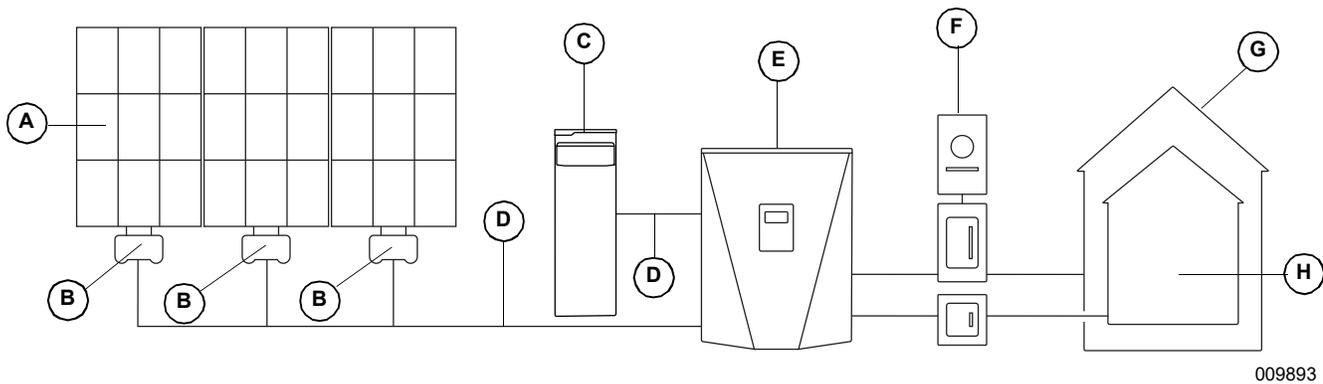

Figure 2-5. Generac PWRcell System Example.
In **Figure 2-5**, a REbus-compatible PWRcell Inverter (E) is directly connected to PV Link (B) and PWRcell battery (C) on the DC (REbus) line (D). To the right of the inverter are AC lines: 240VAC or 208VAC for grid and home loads, and critical load support up to 50A.